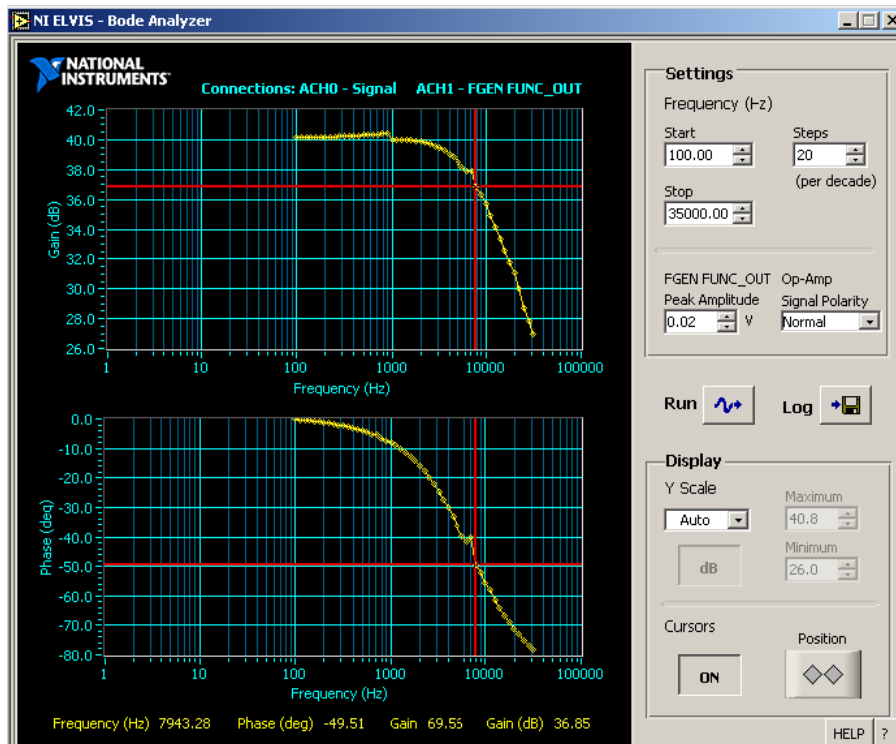

Fig. 9. Bode Analyzer output showing amplifiers low frequency gain and finite bandwidth.
7. Output should appear as shown in Fig. 9. From this analysis note the 3-dB bandwidth of the amplifier.